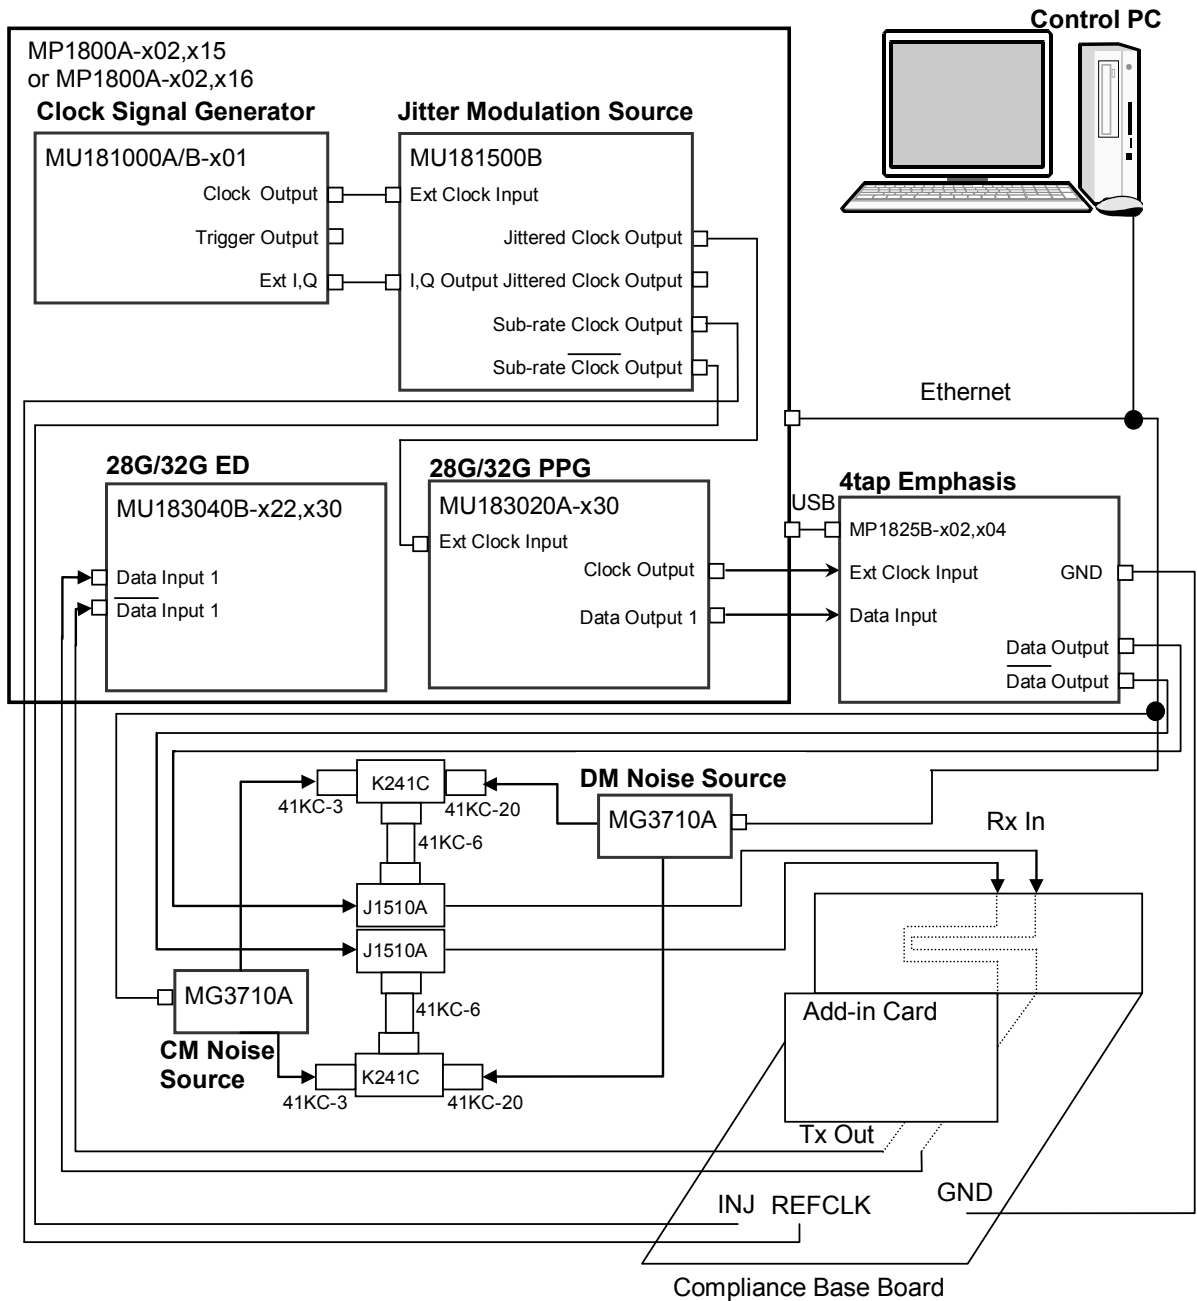

Figure 3.3-1 PCIe Link Sequence Connection Procedure
12. Connect MG3710A to 41KC-3, 41KC-6, 41KC-20, K241C and J1510A as shown in Figure. 3.3-1. The MG3710A output is the RF Output connector.